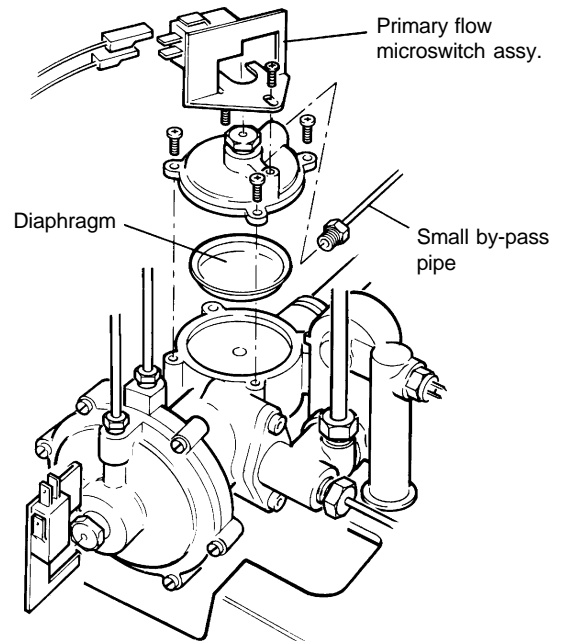

Fig. 40
8.42 PRIMARY FLOW VALVE DIAPHRAGM - Fig. 40